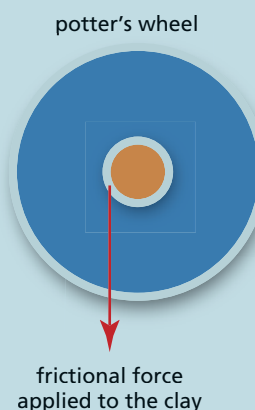

Figure 31
28. This question concerns a potter's wheel, with a disc of clay on it (Figure 31). Relevant data are: